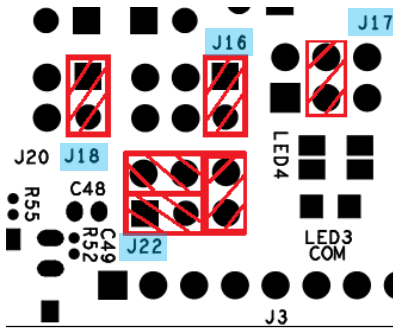
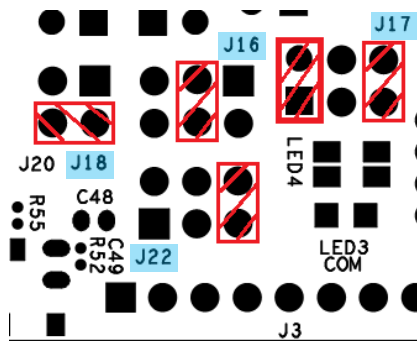
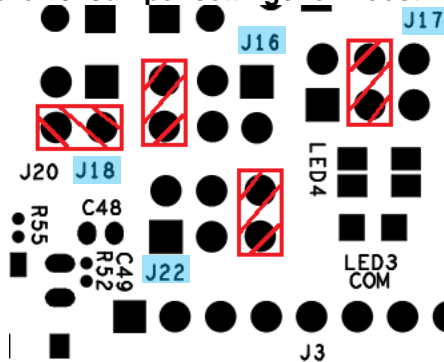
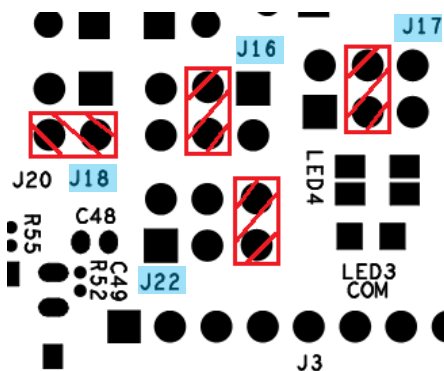

Figure 9: Jumper settings for Bypass mode.
Figure 10: Jumper settings for Boost mode.
Figure 11: Jumper settings for Buck mode (Manual-start).
Figure 12: Jumper settings for Buck mode (Auto-start).
- A secondary 32.768 kHz crystal Y2 is provided (see Figure 9)
The FRDM-KW41Z can be configured to use any of the DCDC converter operating modes. These modes are Bypass, Buck (Manual-Start), Buck (Auto-Start), and Boost. Figure 9, Figure 10, Figure 11, Figure 12, and Table 1 highlight the jumper settings for each of these modes.